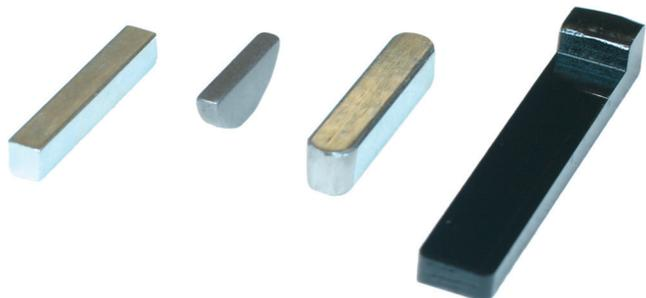

Figure A-31 Keys. A square key, a Woodruff key, a rectangular key, and a gib-head taper key.
**Keys** (Figure A-31) are used to prevent the rotation of gears or pulleys on a shaft. Keys are fitted into key seats in both the shaft and the external part. Keys should fit the key seats